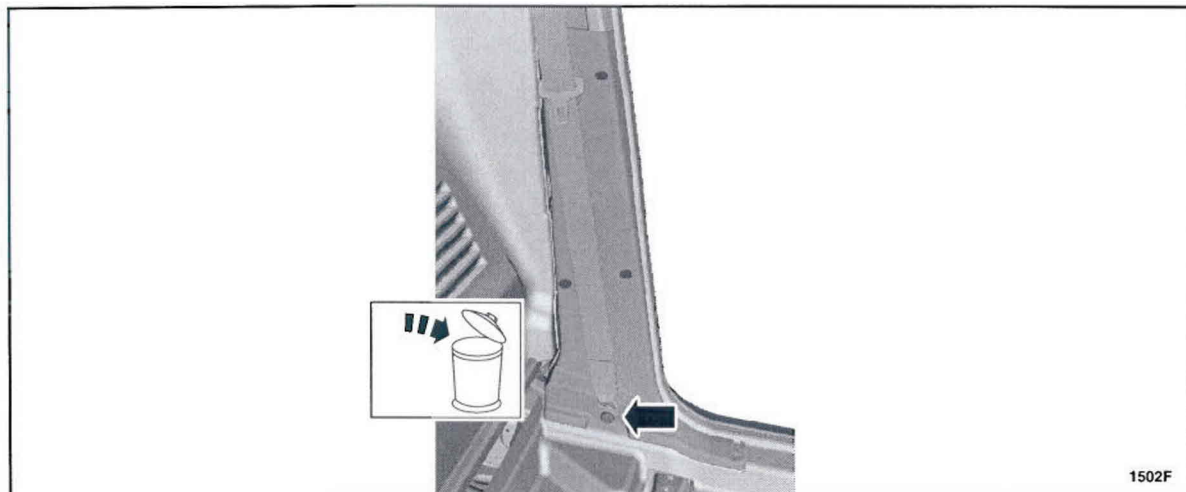

FIGURE 3
2. Remove and discard the lower safety belt fastener. See Figure 3.
3. Install the *new* lower safety belt fastener. See Figure 3.